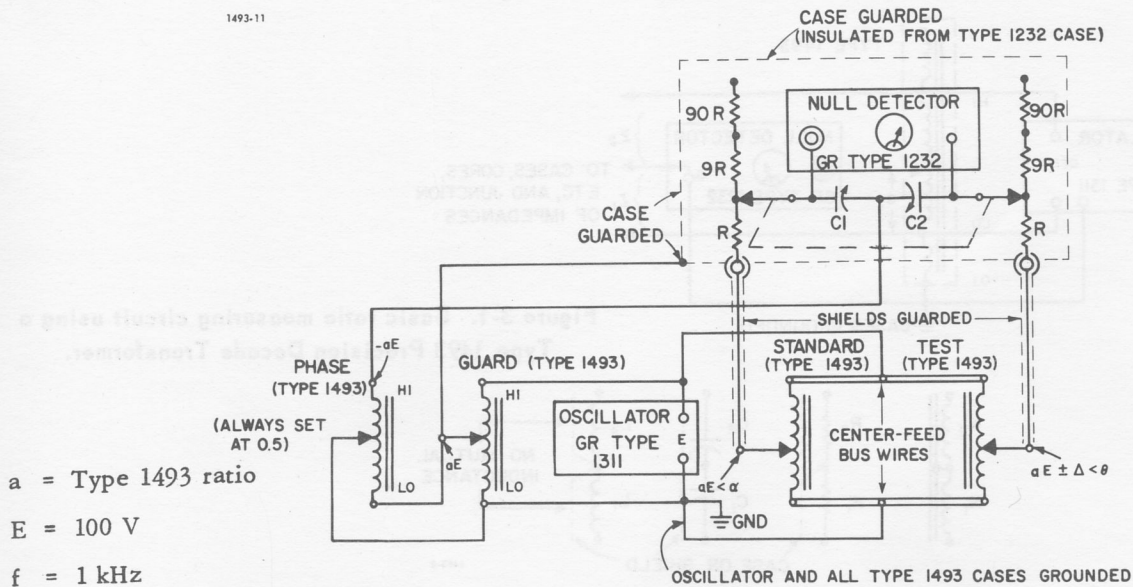

Figure 3-3. Ratio-calibration circuit using a Type 1232 Tuned Amplifier and Null Detector, a Type 1311 Oscillator, and Type 1493 Precision Decade Transformers.
When calibration-quality measurements are required, the circuit of Figure 3-3 permits the highest degree of accuracy and repeatability.
A precision comparison between the standard unit and a test unit can be made if the phase difference between the two instruments is carefully balanced out. In Figure 3-3, the phase instrument applies a voltage through a differential capacitor ( $C_1$  and  $C_2$ ) to the standard and test instruments. A null is obtained by adjusting the differential capacitor, and the resistors (R) if necessary. The phase instrument is